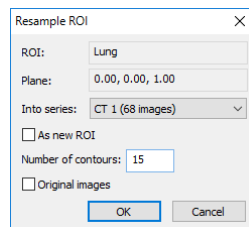

Figure 237 – Resample ROI dialog
- Select the ROI to be resampled in the ROI list, and click the **Resample...** button. The **Resample ROI** dialog is then displayed (see Figure 237).